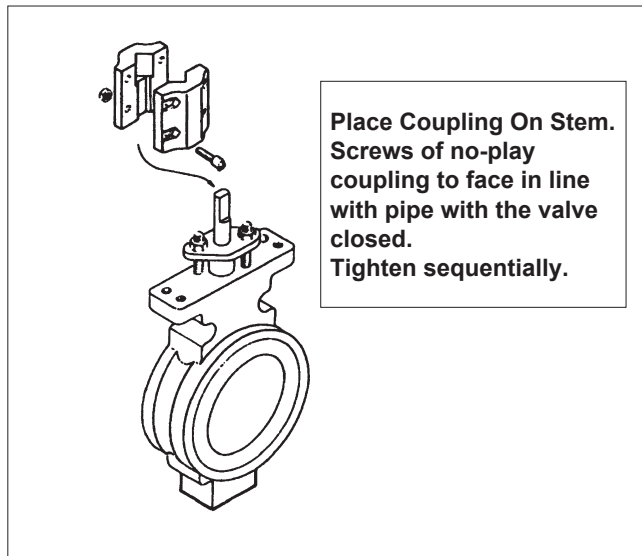

Figure 14.
3. Place the coupling onto the valve stem. If the valve has a two-piece "no-play" bolted coupling, assemble the coupling loosely on the valve stem. Use socket head cap screws and lock nuts (See Figure 14).